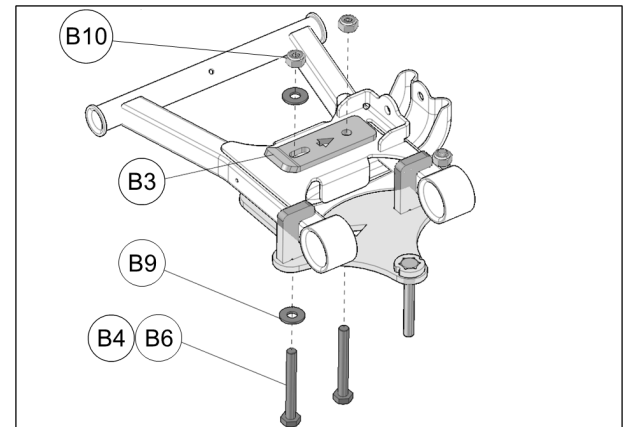

Fig. 8
7. Position bracket cover (**B3**) over lower suspension arm. Insert appropriate bolts [M10x55mm (**B4**) or M10x80mm bolts (**B6**)] through bottom. Set washers (**B9**) over bolt head and under nut installed in oblong holes present in bracket plate and cover. Use nuts (**B10**) to secure assembly. See Fig. 8